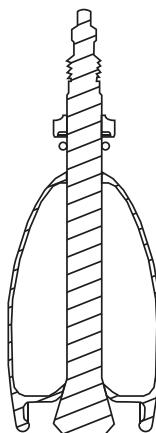

Fig. 1 - A
- Remove the lock nut [fig. 1 - A] that's screwed onto the exterior valve threads.
- Screw the previously removed locknut [fig. 1 - A] back onto the valve, so that the valve is held in place relative to the rim.